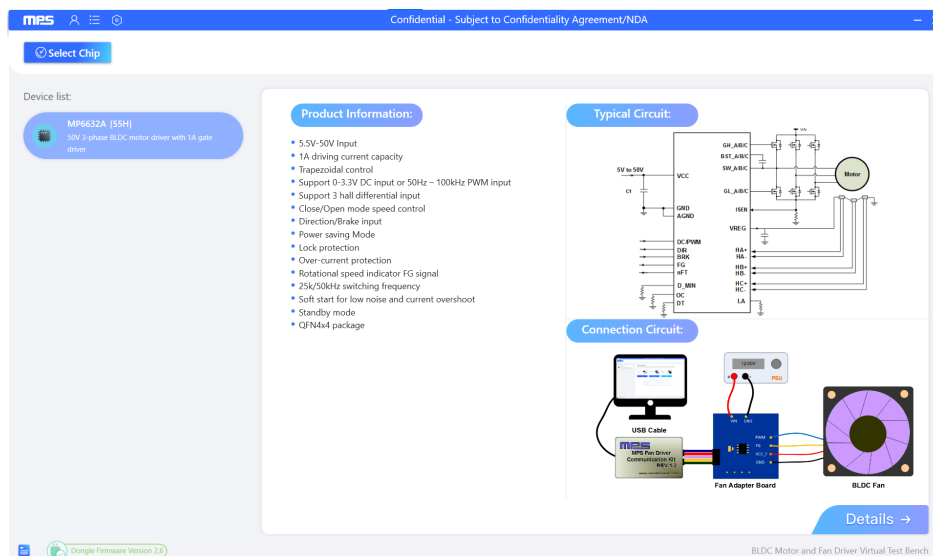

Figure 9: MPS BLDC Virtual Test Bench
3. Click “Details” to enter the test mode interface (see Figure 9).